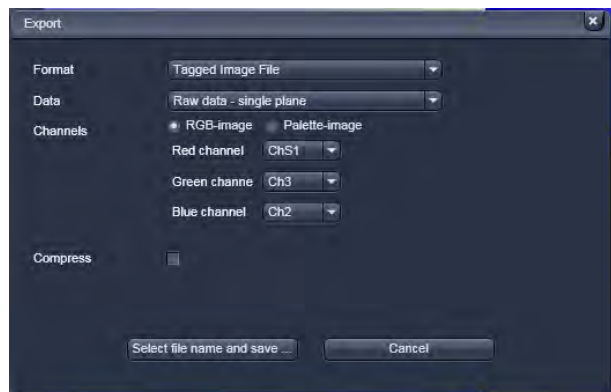

Fig. 282 Export window
- This opens the **Export** window (Fig. 282).